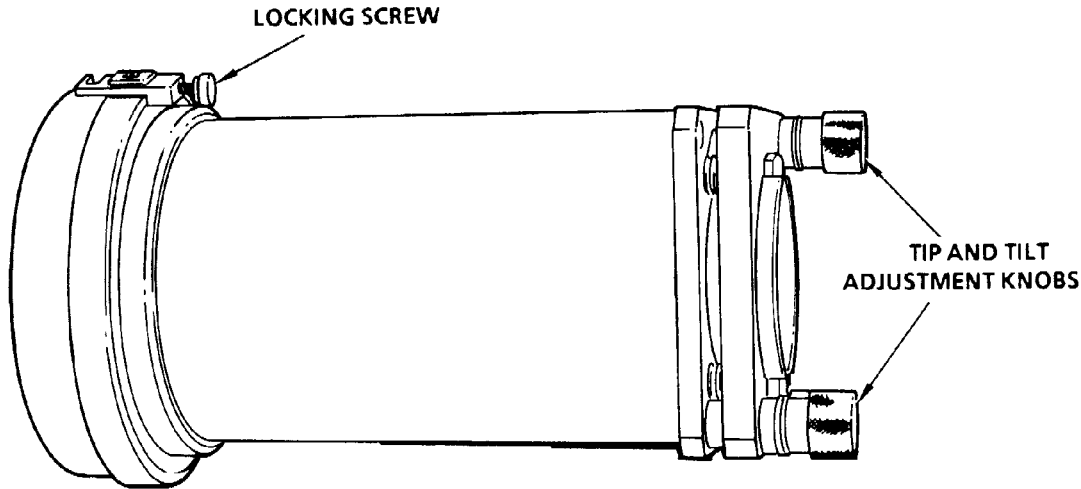

Figure 5-7 Aperture Converter
7. Tighten the small, locking screw on the converter. (Figure 5-7)
12. Align the element using the two tip and tilt knobs on the aperture end of the converter. (Refer to Figure 5-7.) DO NOT adjust the tip and tilt knobs on the mainframe Accessory Receptacle. You will misalign the aperture converter.